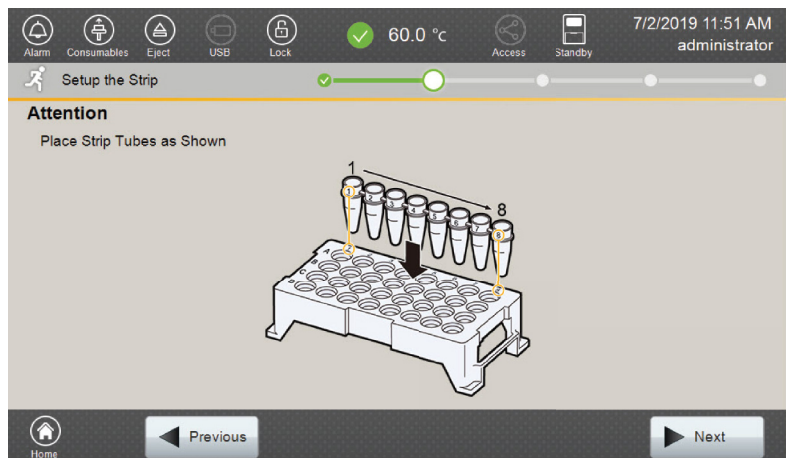
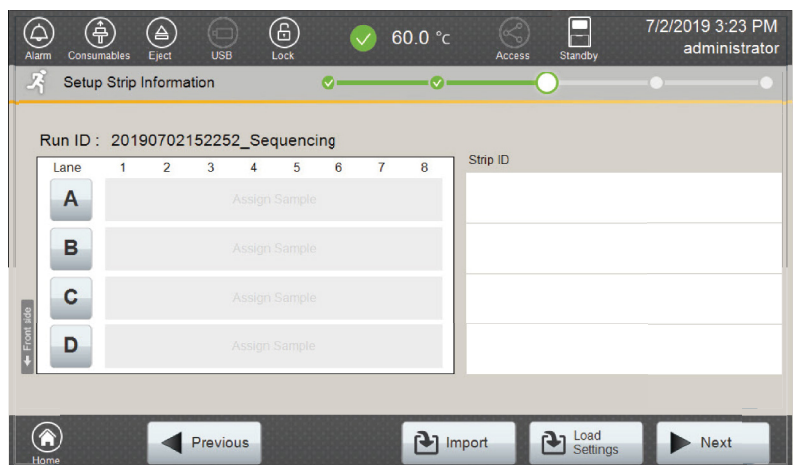
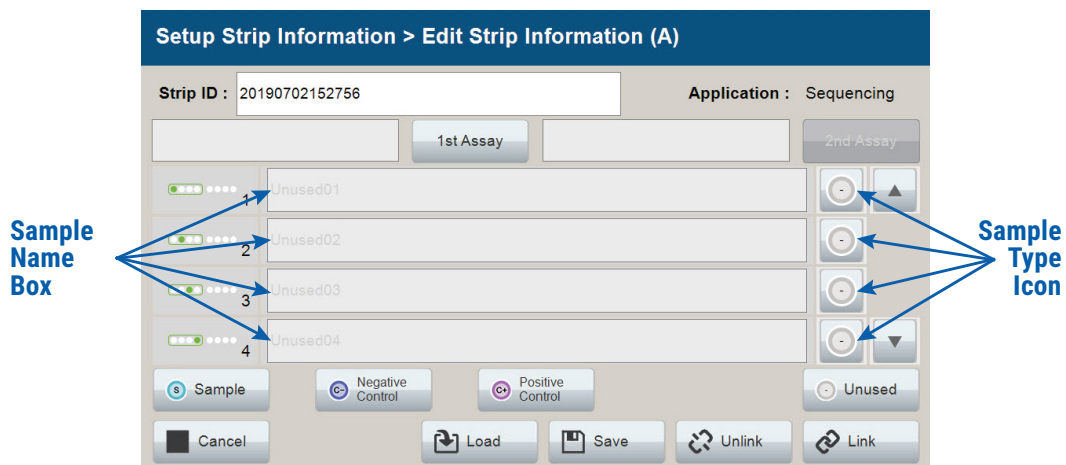

Figure 80. 'Setup the Strip' screen.
Figure 81. 'Setup Strip Information' screen.
Figure 82. 'Edit Strip Information' screen.
3. Select **Next** to proceed to the message screen for placement of strips into the sample cartridge (Figure 80).
4. Follow the message screen for placement of strips into the sample cartridge (Figure 80), and then select **Next** to access the 'Setup Strip Information' screen (Figure 81).
- b. The 'Setup Strip Information' screen is divided into two sections: Sample Information and Strip ID. You can enter sample names for samples in a strip by selecting the icon indicating the lane (A, B, C or D), which corresponds to your samples' strip position within the sample cartridge. This opens the 'Edit Strip Information' screen (Figure 82) for the selected lane.
After selecting the desired lane (A, B, C or D) on the 'Setup Strip Information' screen (Figure 81), the 'Edit Strip Information' screen (Figure 82) displays fields for defining the Strip ID, run assay, sample name and sample type for that lane. Each well in the strip is represented along the left side of the screen. The first injection set of the strip (wells 1–4) is displayed on the screen. You can use the arrows on the right side of the screen to scroll to the second injection set (wells 5–8). Strip Information can be manually entered into this screen as described below or loaded/imported from saved records (see Sections 5.3.2–5.3.4).